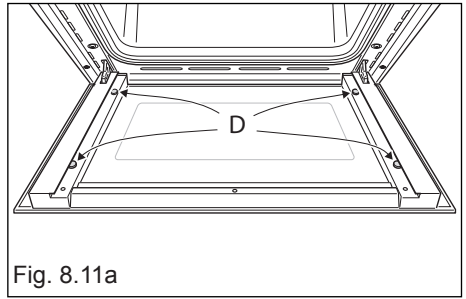

Fig. 8.11a
- Check that the four rubber pads are in place (“D” in fig. 8.11a).